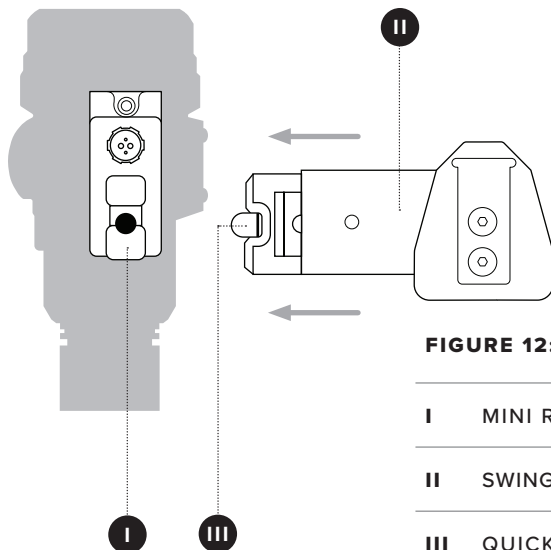

FIGURE 12:
3. Adjust interpupillary distance as needed (see **FIGURE 12**) by loosening the adjustment screw, and sliding the swing arm towards or away from the mid-line of the camera. When the camera is positioned in front of one or other eye correctly, tighten the adjustment screw.